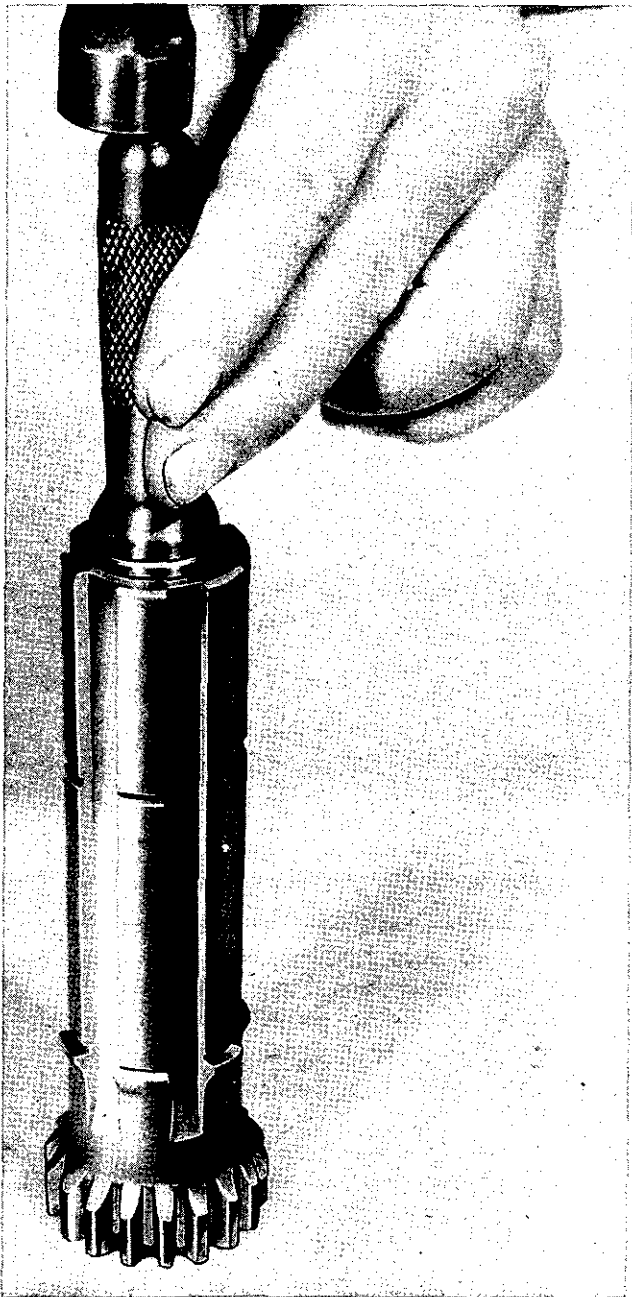

Fig. 14. Fitting needle roller retainer rings to sleeved countershaft gear—Tool No. 20SM-68.
6. Fit 24 needle rollers at each end of countershaft gear ensuring first that the locating rings are in position or alternatively they should have been fitted in position before the previous operation as shown in Fig. 14 with the drift shown. The chamfer on each retainer ring should be placed towards the bottom of the bore in the case of the inner ones and outwards for the outer ones. The rollers should be retained in grease and counted after installation to ensure that they have not become displaced, before fitting retainer tube mentioned in next operation.